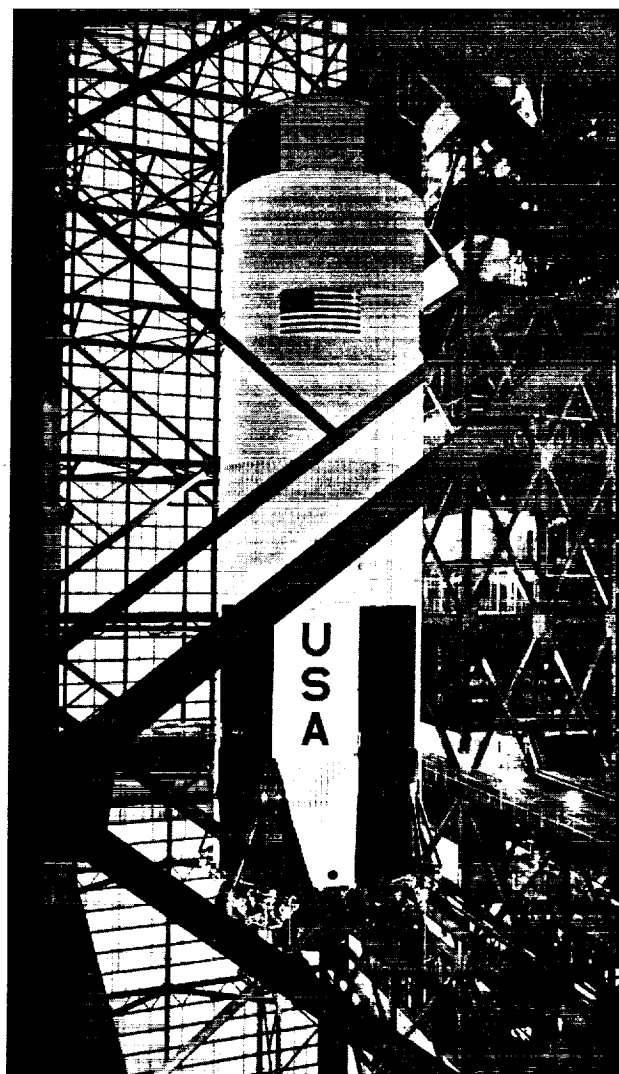

Figure 10-6. S-IC Stage Erection At KSC - Phase III
- i. Attach three (3) each guide lines to the aft end of the rotation brace lower linkage assembly to control the movement of the linkage assembly during removal.
- j. Remove the three (3) pins (75M51020-6 (2) and 75M51020-5) connecting the rotation brace lower linkage assembly to the stage handling fittings after installing the pin pullers (75M51012-4), in the following sequence:
- (1) Remove the two aft pins first.
- (2) Adjust tension in sling assembly to assure lower linkages are free of any binds.
- (3) Retract upper pin and remove rotation brace from stage.
- n. Hoist S-IC stage approximately 210 feet, clearing diaphragm wall by approximately 20 feet per figure 10-6.